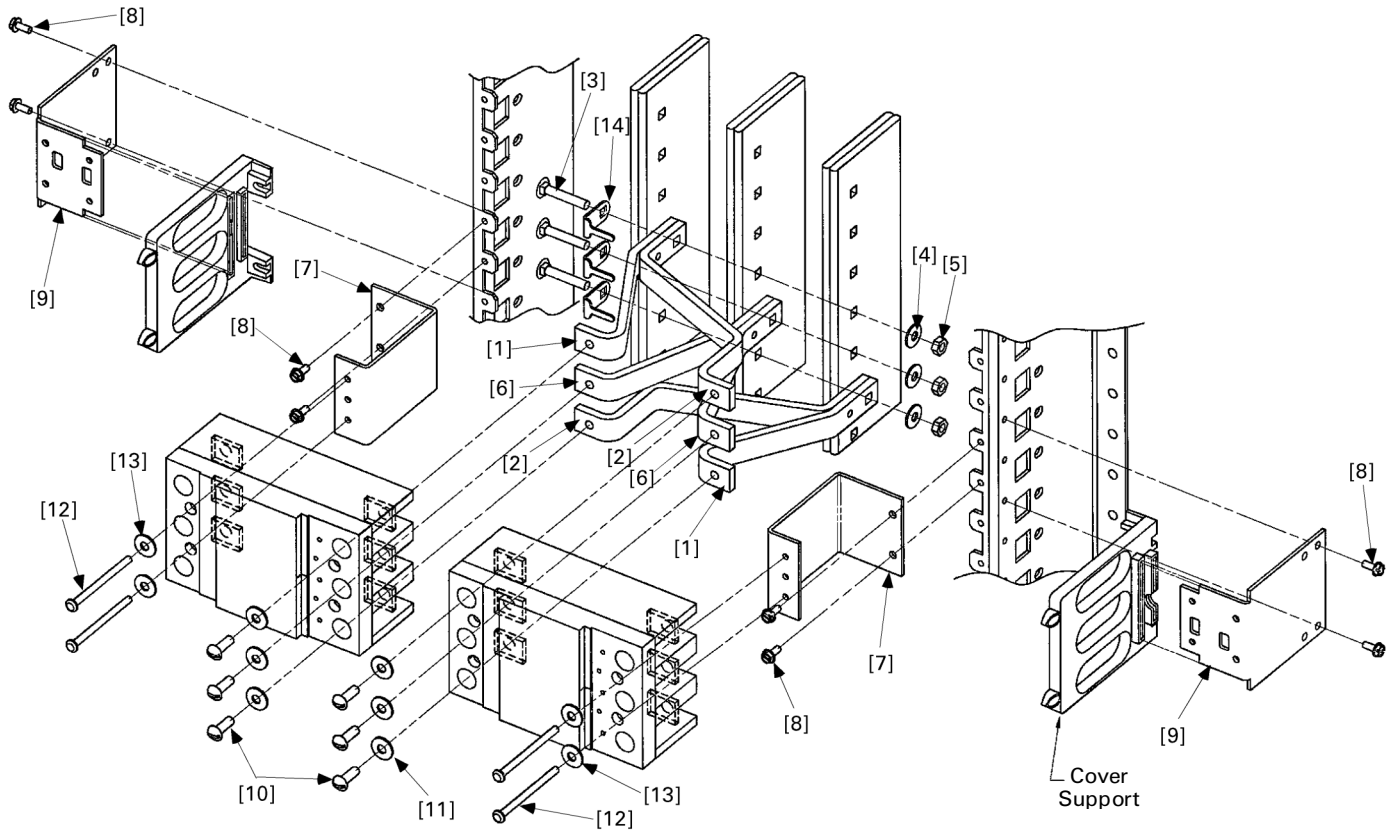

Figure 1. Mounting TQD and THQD circuit breakers into Spectra APNB bolt-on interiors.
- 3. Install the circuit breaker straps.** For three-phase applications (kit AMCB6QD), begin installing the breaker straps with the A or C phase poles, as shown in Figures 1 and 2. Slide an antiturn clip [14] over the square shank of a carriage bolt [3]. Insert the carriage bolt assembly into the appropriate square hole in the bus, so that the pin of the antiturn clip rests on the front of the bus. Place the square holes in the inner strap [2] and outer strap [1] over the bolt so that the pin of the antiturn clip fits into the small holes on the straps. Secure the assembly to the vertical bus with a conical spring washer [4] and nut [5], leaving the connection finger tight. Repeat the process for the center pole straps [6] and the other end pole straps [1, 2].
For single-phase panels, dc applications, and phase-balancing purposes (kit AMCB4QD), Table 2 lists the possible configurations. Align the appropriate strap assemblies [1, 2, 6] with the corresponding holes in the vertical bus, as shown in Figures 1 and 2. Fasten each strap assembly loosely to the vertical bus with a carriage bolt [2], conical washer [3], and nut [4], as described for the three-phase kit. When installing any of the two-pole strap configurations in Table 2, be sure to install the straps in standard phase-rotation order. When installing a two-pole and a three-pole breaker in a double-branch assembly, arrange the straps in the typical three-pole configuration, as shown in Figure 1.
- 4. Install the circuit breaker mounting brackets and cover supports.** Attach the inner breaker mounting brackets [7] to the panel side rails with thread-forming screws [8], as shown in Figure 1. Tighten the screws to 35 in-lb. Slide the uppermost slot on the cover supports (supplied with the breaker cover kit), with the mounting tabs oriented inward, onto the outer mounting brackets [9] until they snap into place. Cover supports can be easily removed by inserting a screwdriver blade into the slot on the underside of the mounting bracket assembly and gently prying downward while pushing the support off. Install the completed outer mounting bracket assemblies on the panel side rails with thread-forming screws [8], as shown in Figure 1. Tighten the screws to 35 in-lb.